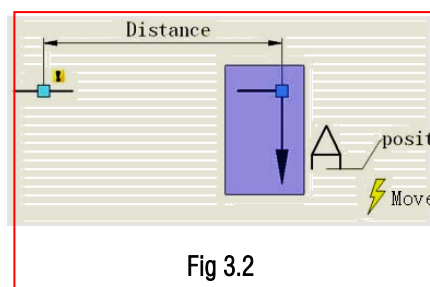

Fig 3.2
2. Select objects to stretch and the "position" Point Parameter together, which can accomplish that the text and section symbol are moving together (Fig. 3.2).